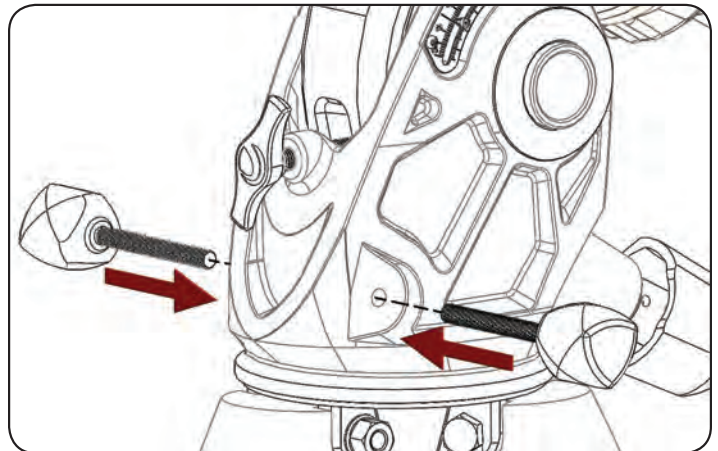

FIGURE 2-3
5. Locate the azimuth adjustment screws on the equatorial mount (Fig 2-3).